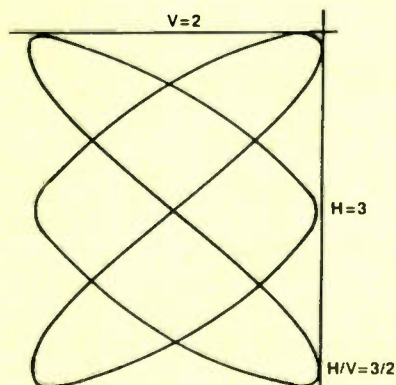

FIGURE 7
6. 100Hz. (See Figure 7.) The hori-